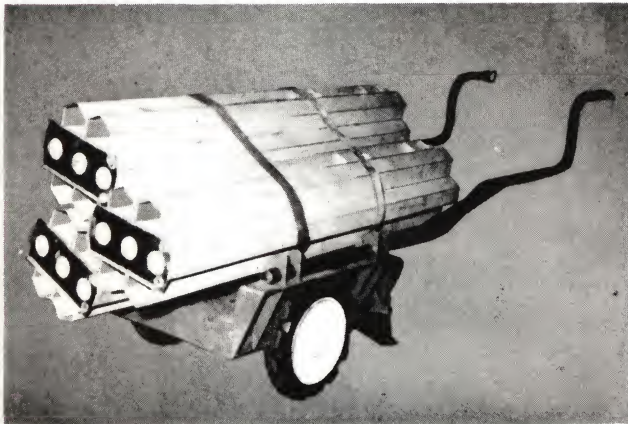

Figure 4-13. Aero 39B Adapter With Coolant Tanks.
**4-3.5 AERO 39B ADAPTER.** The Aero 39B adapter is used to transport coolant tanks (bottles) through ship spaces. Each adapter can hold seven tanks, and three Aero 39B adapters can be loaded on the Aero 12B bomb skid. The adapter weighs 29 pounds and is 54 inches long, 11-7/8 inches wide, and 11-3/8 inches high. A loaded Aero 39B adapter is shown in figure 4-13.